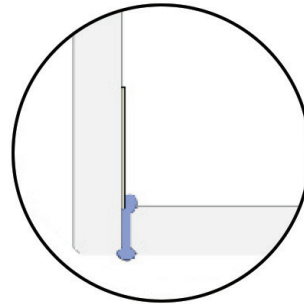

FIG 11.
- Gently place glass to glass panel into siliconed floor channel and tilt gently upwards until it joins to glass to wall panel (**FIG 11**). Ensure there is no side to side movement while placing panel as this will smear silicone.